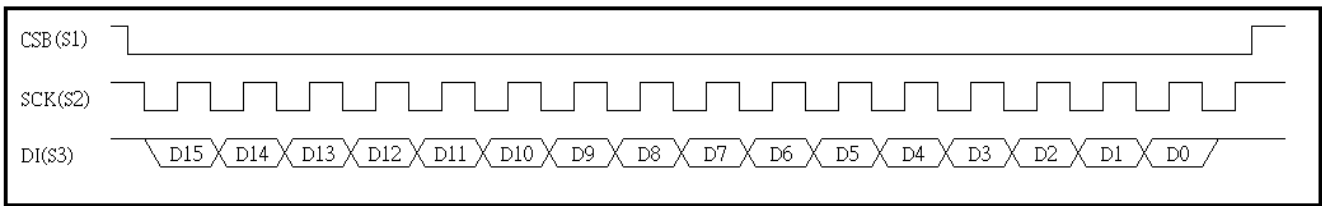

Fig.15 SPI Command timing
- a. Command timing reference Fig.15 SPI Command timing.